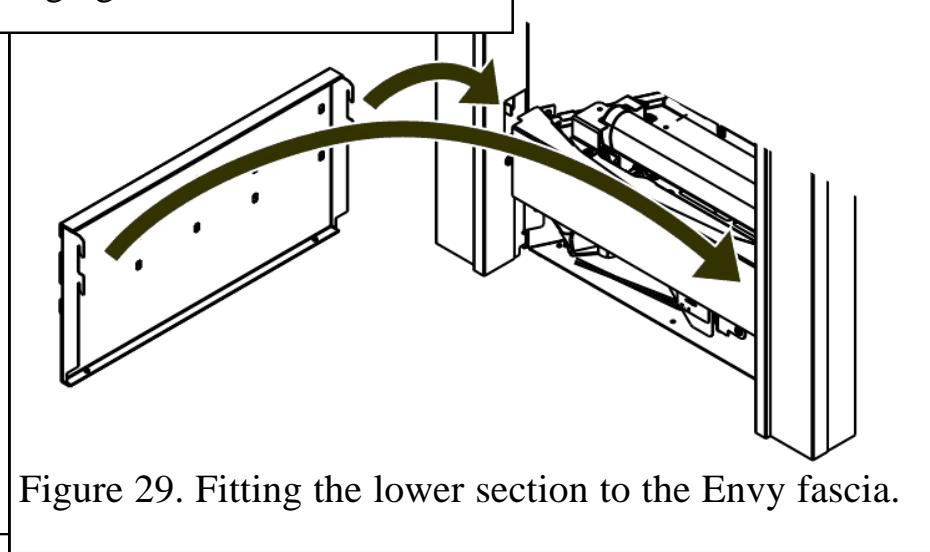

Figure 29. Fitting the lower section to the Envy fascia.
6. **Envy model only** - Locate the lower section of the fascia onto the tabs as shown in figure 29